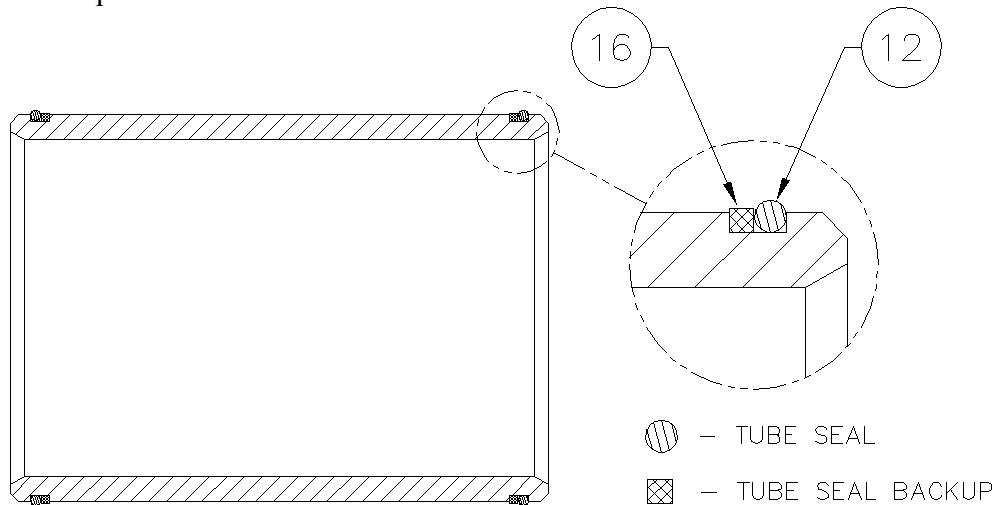
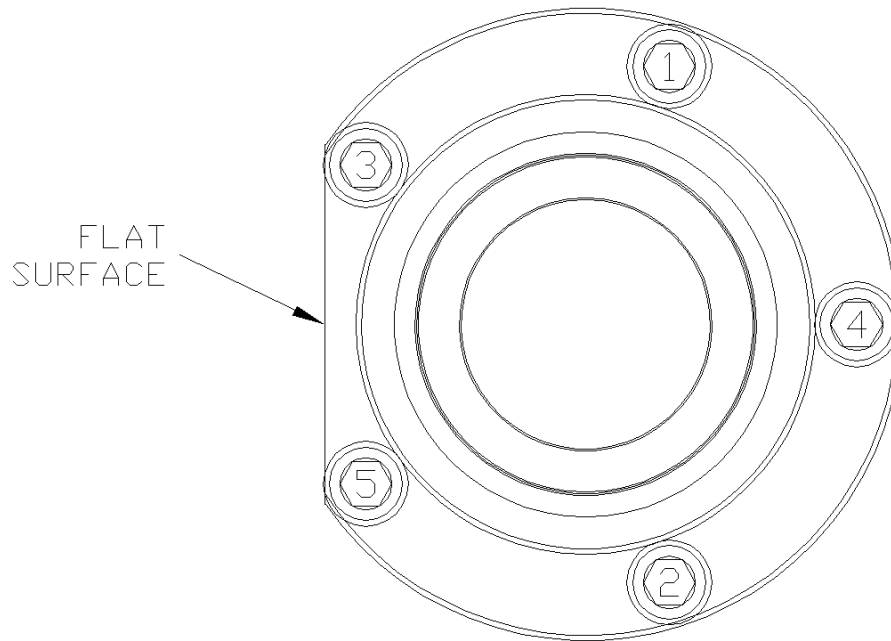
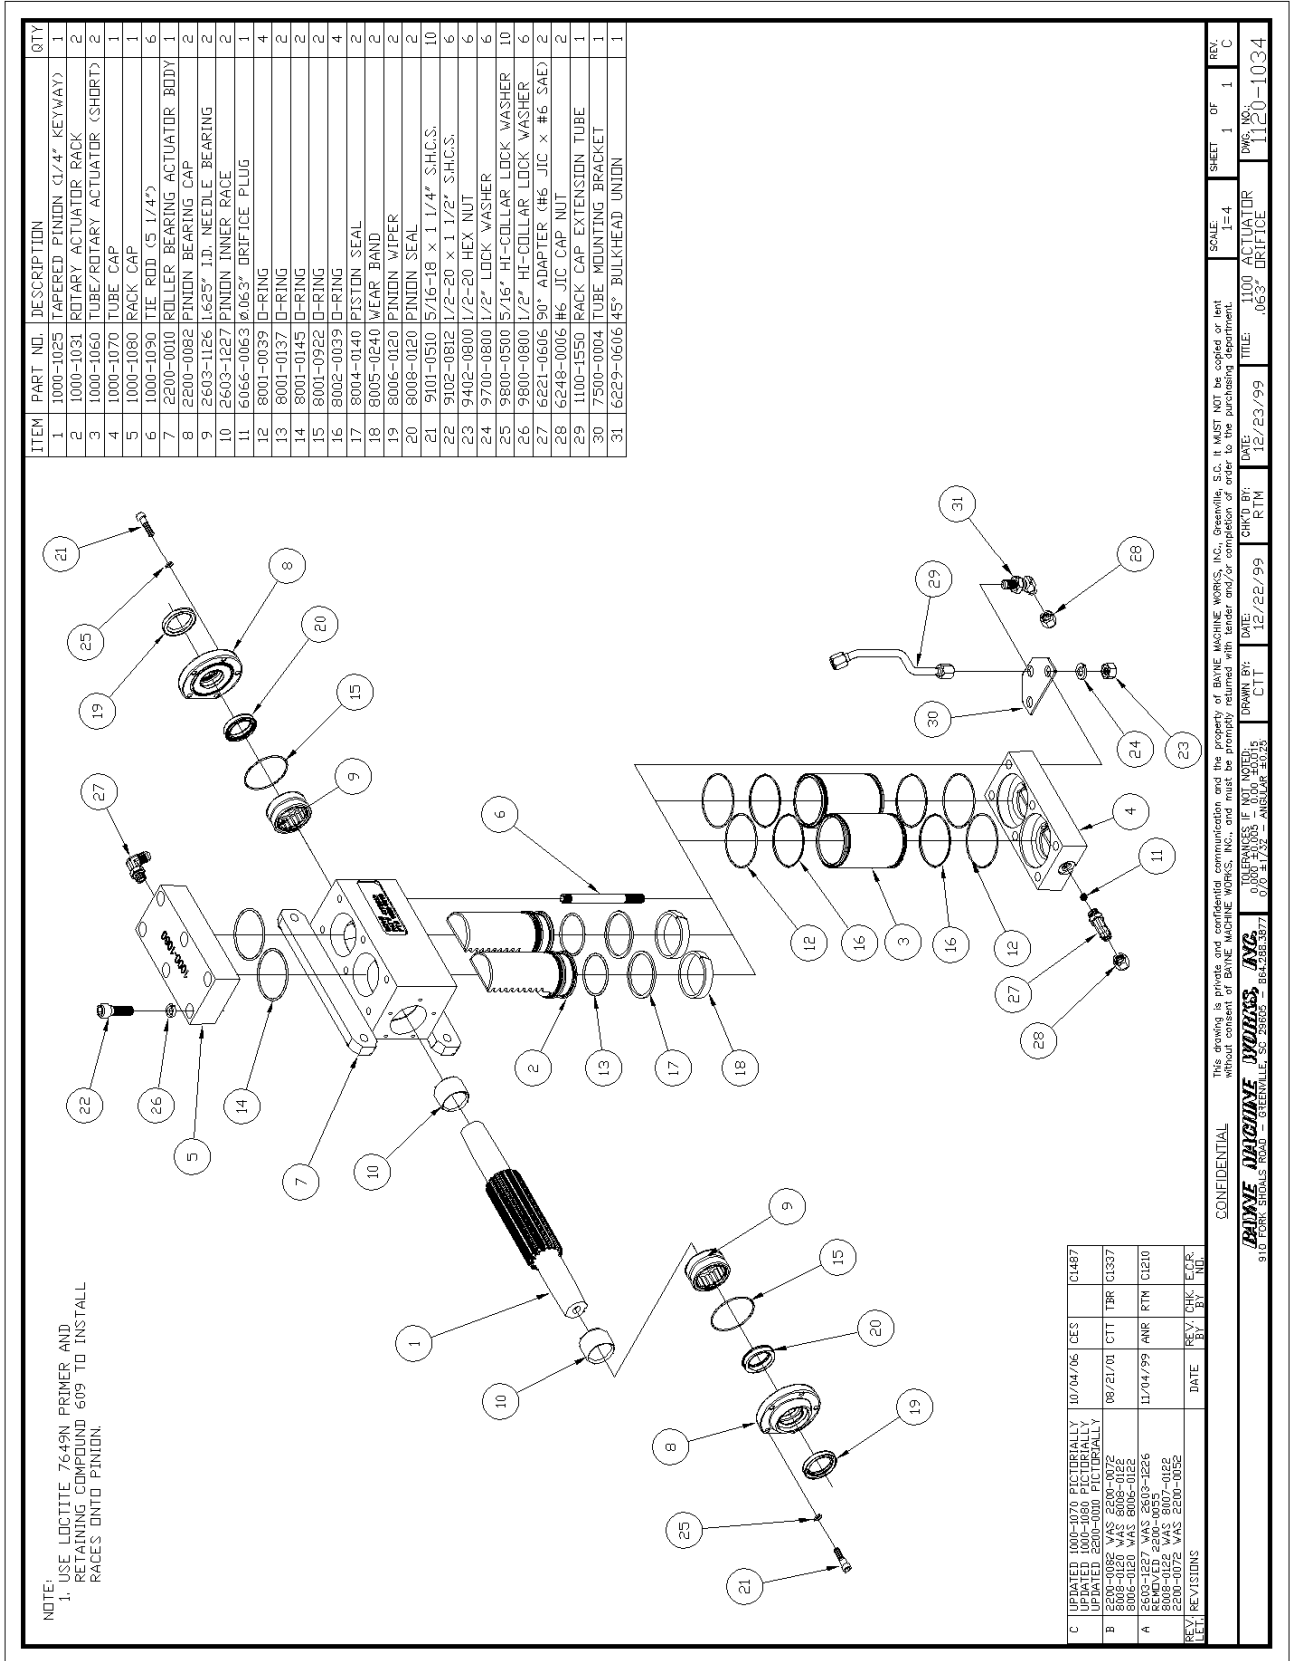

figure A-2
figure A-12
figure A-13
Before starting the assembly of the Rotary Actuator, refer to the exploded parts drawing and parts list (fig. A-13 found at the end of these instructions) to familiarize yourself with the individual components. Prepare a clean surface, in an area free of blowing dust and contaminants in which to assemble the Rotary Actuator. Be sure that all parts are thoroughly clean and dry before starting assembly.
2. Install the tube seal (12) (fig. A-2) and “square” tube seal backup (16) on each end of the actuator tubes (3) (fig. A-13). Be sure that the “square” tube seal backup ring is toward the inside of the tubes at both ends as shown. Press all rings firmly into the grooves. Repeat this procedure for the other tube.
- Coat the head portion of the racks (2) (fig. A-13) with STP Oil Treatment. Install the racks, head portion up with the teeth facing the flanges of the actuator body, into the dual set of bores in the body. Simultaneously slide the racks into the bores so that the racks mesh with the pinion in the same position. Rotate the pinion shaft to engage the racks into the pinion.
7. Coat one end of the actuator tubes (3) (fig. A-13) around the seal area with STP Oil Treatment as shown in figure A-7. Using a rubber mallet, drive the coated end of the tube onto the exposed rack until the tube end seats in the actuator body, making sure that the seals remain in place as the tube enters the counter-bore. Repeat this procedure for the other side.
8. Install the six tie rod studs (6) (fig. A-13) by screwing the short threaded end into the actuator body. Hand tighten only at this time (the torque needed will be applied later in the procedure).
9. Place the tube cap (4) (fig. A-13) on the table. Coat the sides of the two bores in the tube cap with STP Oil Treatment. Install the cap over the tubes and rod studs with the oil port positioned to the left as shown in figure A-13. Using a rubber mallet, tap the tube cap over the tubes until the tubes seat in the cap, making sure that the seals remain in place.
10. Place the tube mounting bracket (30) (fig. A-13) over the two end rod studs opposite the oil port in the tube cap as shown in figure A-13.
11. Install the hex nuts (23) (fig. A-13) and lock washers (24) on the tie rod studs. Torque the nuts to 50 ft-lb. in the sequence shown in figure A-8.
12. Place the rack cap (5) (fig. A-13) bore side up on the table and coat the edge of each bore with STP Oil Treatment. Install the rack cap seals (14) (fig. A-9) in the rack cap.
13. Reposition the actuator on the table mounting flanges down, and the lower tubes facing away from the assembler. Rotate the pinion shaft to allow 1" of the rack to protrude from the top of the actuator body. Install the rack cap with the oil port positioned to the left hand side of the actuator opposite the bottom oil port located in the tube cap as shown in figure A-13. Attach the rack cap to the actuator body using the socket head bolts (22) (fig. A-13) and lock washers (26). Torque the bolts to 90 ft-lb. in the sequence shown in figure A-10.
15. Re-center the actuator pinion in the actuator body by tapping on one end of the shaft with a rubber mallet. Install the roller bearing (9) (fig. A-13), over the pinion shaft and inner race, and into the actuator body. Repeat this procedure for the other bearing.
18. Wrap masking tape or electrical tape around the pinion to cover the edges at the keyway. Slide the bearing cap assembly over the pinion shaft with the bearing cap seal facing toward the actuator body and the flat surface of the flange shown in figure A-12 facing toward the actuator mounting flanges. Press against the bearing cap until the shoulder seats against the actuator body, making sure that the seals remain in place. Install the bearing cap bolts (21) (fig. A-13) and lock washers (25). Hand tighten only at this time. Repeat this procedure for other bearing cap.
19. After both bearing caps have been installed, torque all bearing cap bolts to 30 ft-lb. in the sequence shown in figure A-12.
20. Install the 90° fitting (27) (fig. A-13) into the oil port on the side of the rack cap (5). Hand tighten only at this time.
21. Install the 45° bulk-head fitting (31) (fig. A-13) up through the hole in the tube mounting bracket (30) bolted to the tube cap as shown in figure A-13. The 45° end must be pointing down away from the rack cap (5) and back toward the mounting flanges on the actuator body. Hand tighten only at this time.
22. Install the rack cap extension tube assembly (29) (fig. A-13) between the 90° fitting in the rack cap and the 45° fitting in the tube mounting bracket as shown in figure A-13. Tighten all connections.
23. Install the orifice plug (11) (fig. A-13) into the oil port on the side of the tube cap (4), and install the 90° fitting (27) into the oil port over the orifice plug as shown in figure A-13. Turn the fitting so that it points down away from the rack cap (5) and back toward the mounting flanges on the actuator body and tighten.
24. Install the cap nuts (28) (fig. A-13) onto the open fittings to prevent contamination of the unit until the hoses are installed.